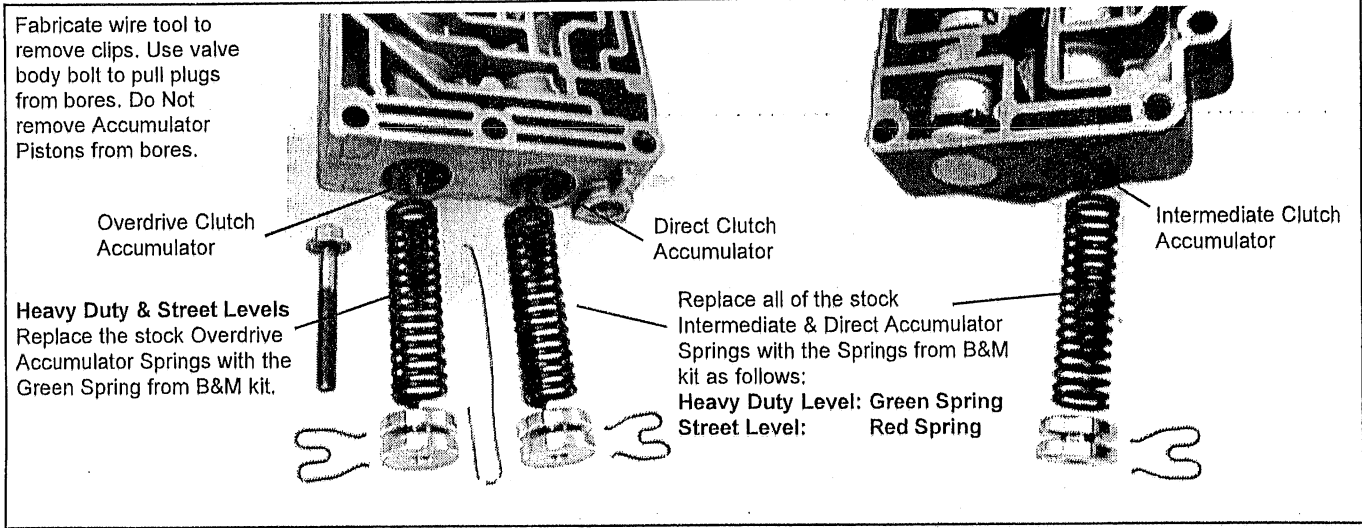

Figure 7. Accumulator Valve Body.
Step 9. Modify the Accumulator Valve Body as shown in Figure 7 according to desired shift performance level. You can easily remove the valve train retaining clips by bending a small hook on a small diameter wire (paper clip) and using it to hook and remove the clip. The clips are spring loaded so be